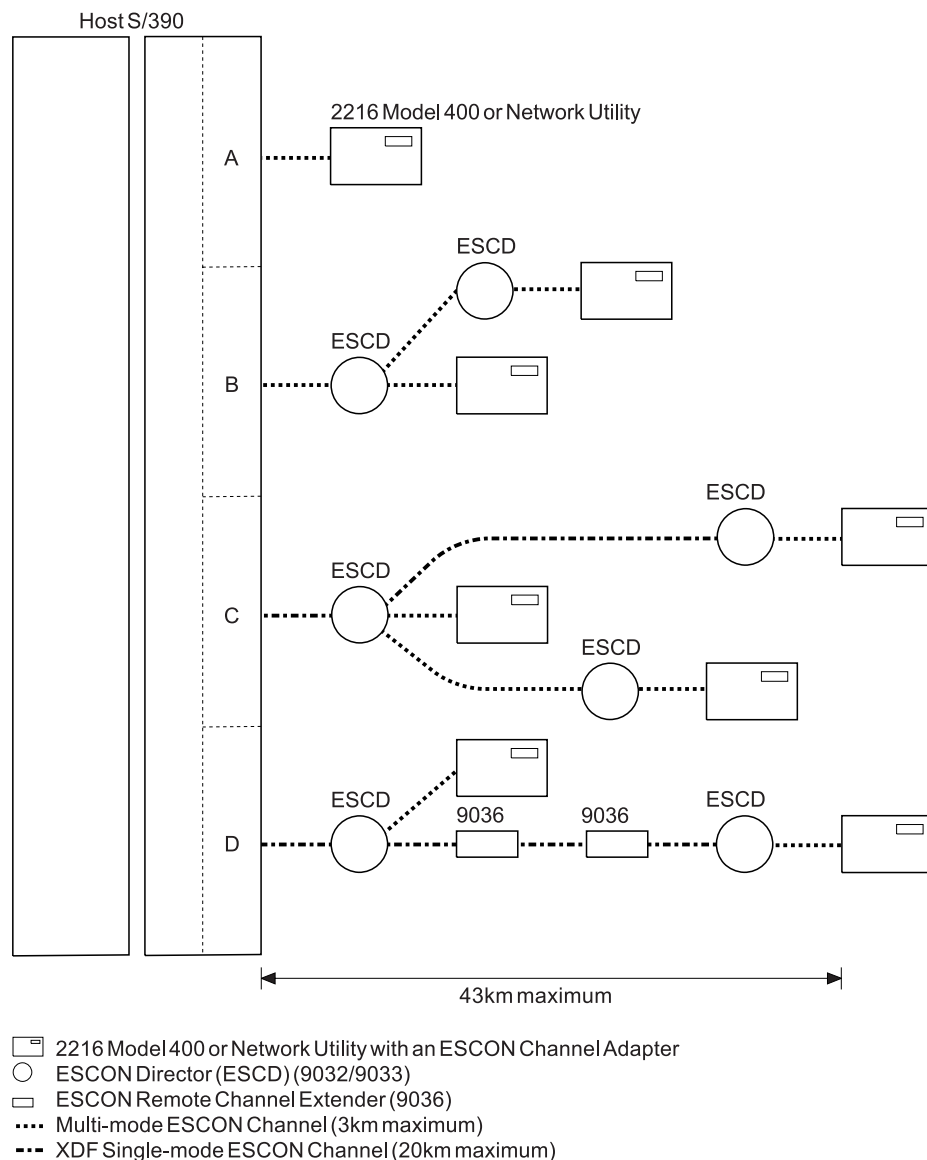

Figure 5-4. Single System ESCON Connection Example
See Figure 5-4 on page 5-11.
**Direct Attachment Between an S/390 Host and a 2216 Model 400 or Network Utility:** In Figure 5-4, connection A shows a 2216 Model 400 or Network Utility directly attached to a S/390 host channel. The separation of the host and the 2216 Model 400 or Network Utility can be up to 3 km (1.86 miles).